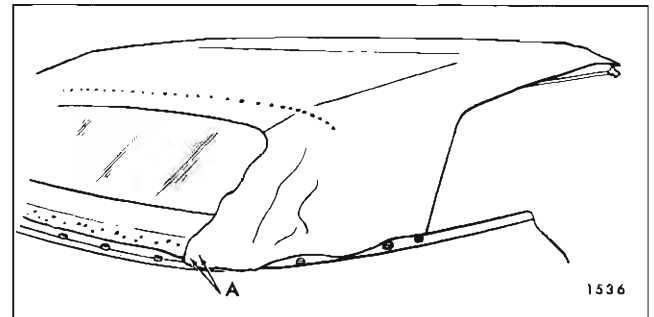

Fig. 1-I-36—Tacking Top Material
**IMPORTANT:** Tacks must be installed along a straight line in center of rear bow. (See Fig. 1I37). Tacks outboard of deck seams should be restricted to distance not to exceed six inches,
which is length wire-on binding extends past seam (Fig. 1I37).
28. At front roof rail, pull top trim material forward to desired tension. While maintaining tension on top trim, place a pencil mark on outer surface of trim material along forward edge of front roof rail (Fig. 1I38).